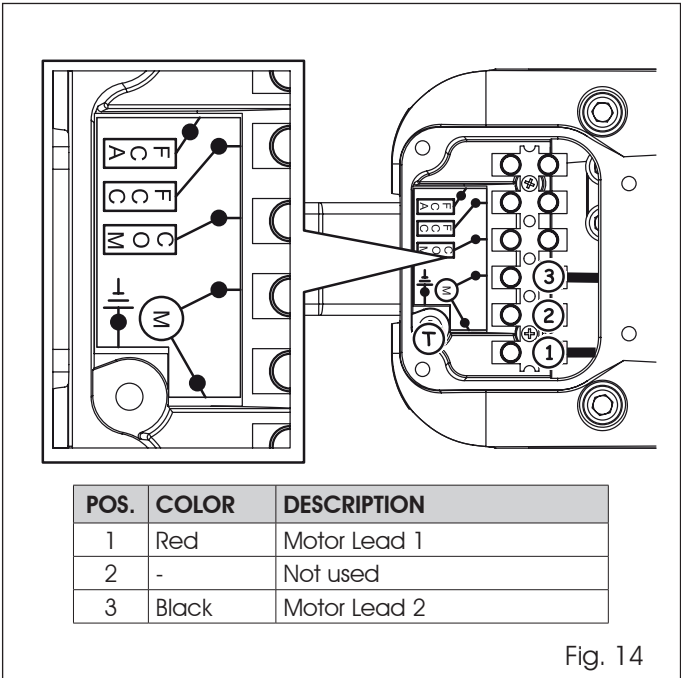

Fig. 14
- 3. Thread the two conductor cable through the strain relief and connect the wires as shown in Fig.14.